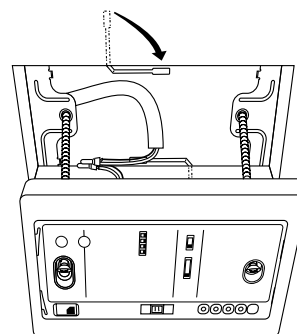

Fig. 11-28
7. Return parts (A) and (B) through the gap between the ceiling and receiver unit so that they are contained in the openings. Then tighten the screws. Do not tighten the screws excessively. This may result in damage or deformation of the case. Tighten to the point where the receiver unit can be moved slightly by hand. (Fig. 11-28)